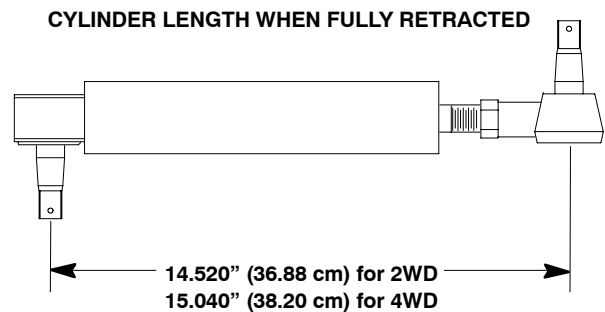

Figure 33
1. If ball joint was removed from cylinder shaft, fully retract cylinder shaft and thread ball joint onto shaft. Adjust center to center length to dimension shown in Figure 33 before tightening jam nut. Torque jam nut 50 ft-lb (68 N-m).